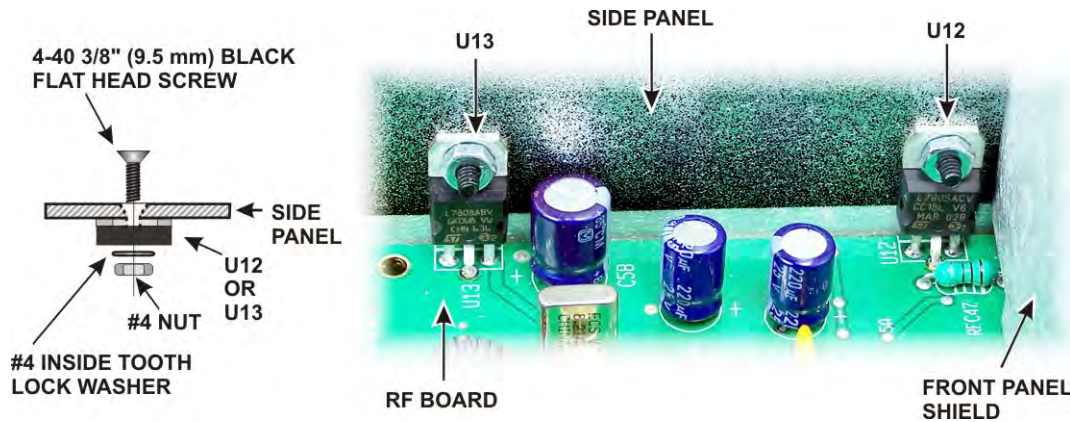

Figure 30. U12 and U13 Hardware.
Remove the hardware securing the heat sinks of U13 and U12 to the right side panel (see Figure 30). Be careful not to lose the lock washers inside the K3.
- Replace the two 4-40 3/8" (9.6 mm) black flat head screws, lock washers and nuts to secure the heat sinks of U13 and U12 to the side panel as shown in Figure 30.